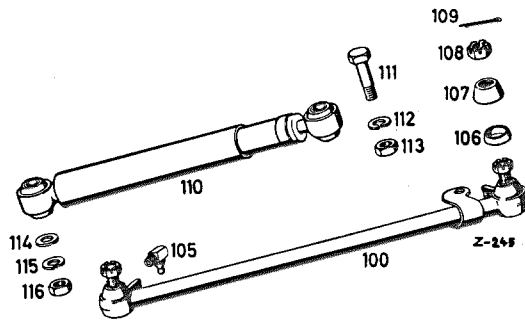

Fig. 46—9/1
1. Disconnect the steering shock-absorber from the center tie-rod by unscrewing the hexagon nut (113) and tapping out the hexagon screw (111) (Fig. 46—9/1).
2. Pull the cotter-pin out of the castle nuts, unscrew the castle nuts and use Bell-shaped Puller 186 589 10 33 to press out the ball-heads from the steering gear arm (5) and from the steering relay arm (6) (see Fig. 46—1/1).
3. Remove the sealing covers (106) and the rubber cuffs (107) (Fig. 46—9/1).
6. Place a sealing cover (106) and a rubber cuff (107) on each of the ball-heads. Press the center tie-rod into the steering gear arm and the steering relay arm (Fig. 46—9/1).